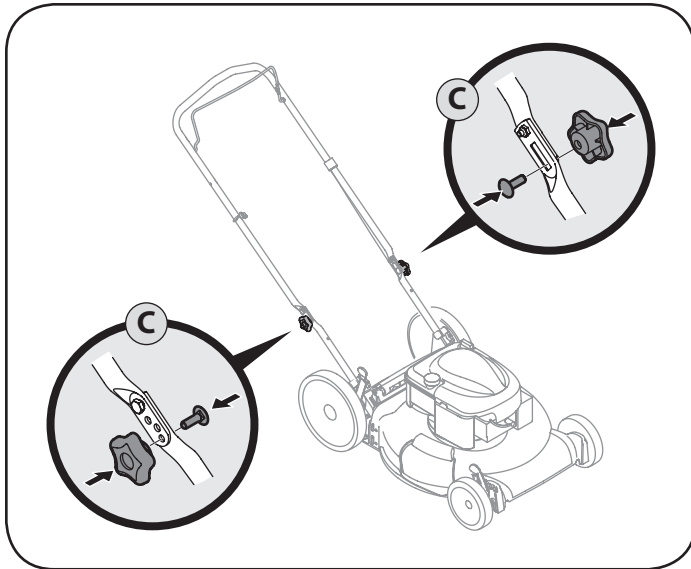

Figure 5
- c. Reattach wing nuts and carriage bolts removed earlier into lower holes of handle as shown in Figure 5.